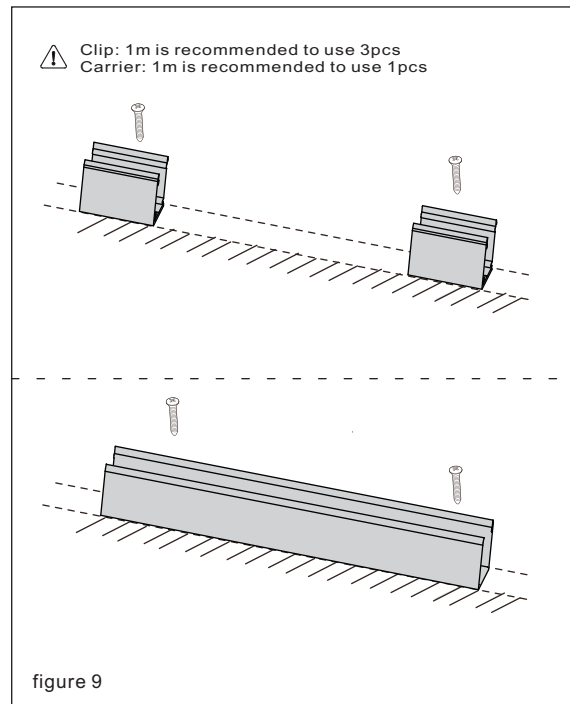

figure 9
(9) Screw the clip or carrier in the installed position as Figure 9: